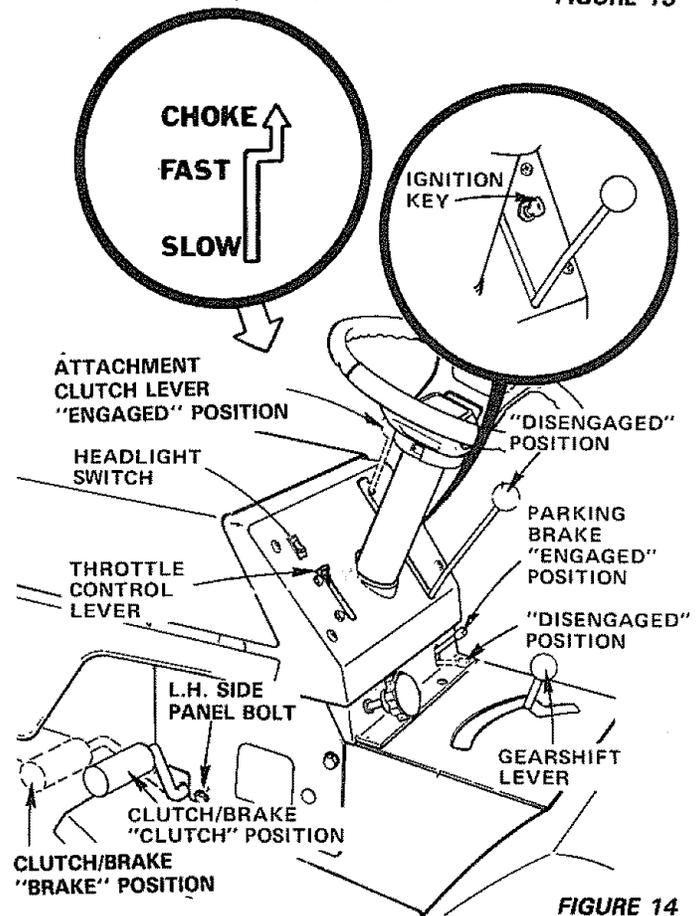

FIGURE 14
- Place attachment clutch lever in "disengaged" position. (Fig. 14).
- Push clutch/brake pedal fully into brake position (Fig. 14).
- Place gear shift lever in "NEUTRAL" position (Fig. 14).
- Move throttle control lever (Fig. 14) to "FAST" detent, then to the right and upward for "CHOKE" position. At the "FAST" position the lever has a stop. The stop is provided so that you will know when you are at full throttle "FAST" position and prevent over travel into choke position.
- Turn ignition key clockwise (↻) to "START" position and release key as soon as engine starts (Fig. 14).